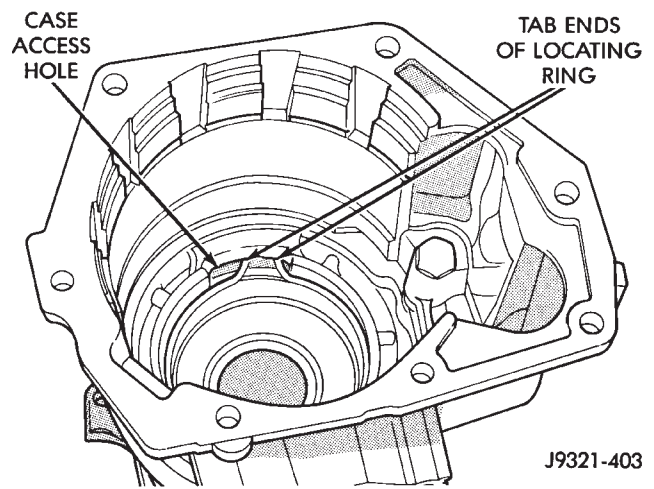

Fig. 59 Correct Rear Bearing Locating Ring Position
- (6) Verify that tab ends of rear bearing locating ring extend into access hole in gear case (Fig. 59).